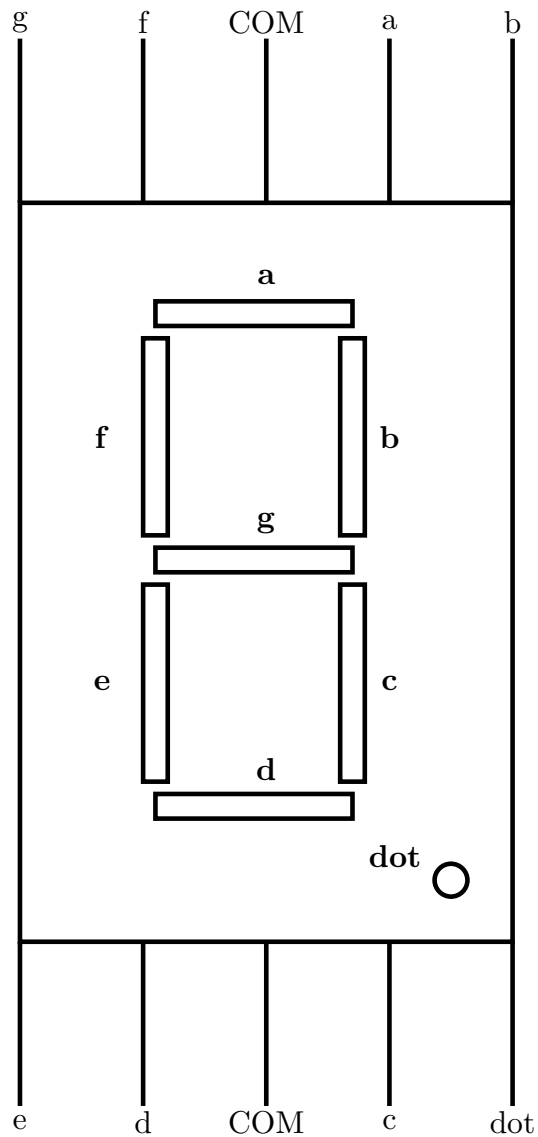
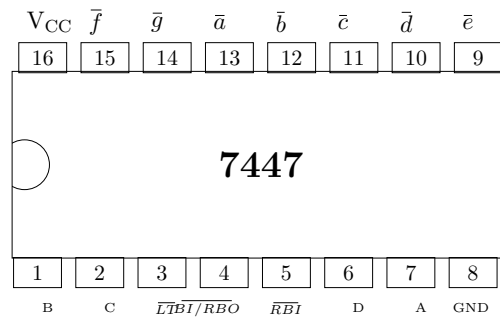

Figure 2.2: Seven Segment pins
Figure 3.1:
The seven segment display in Fig. 2.2 has eight pins, a, b, c, d, e, f, g and dot that take an active LOW input, i.e. the LED will glow only if the input is connected to ground. Each of these pins is connected to an LED segment. The dot pin is reserved for the \cdot LED.
1. Make connections between the seven segment display in Fig. 2.2 and the 7447 IC in Fig. 3.1 as shown in Table 3.2